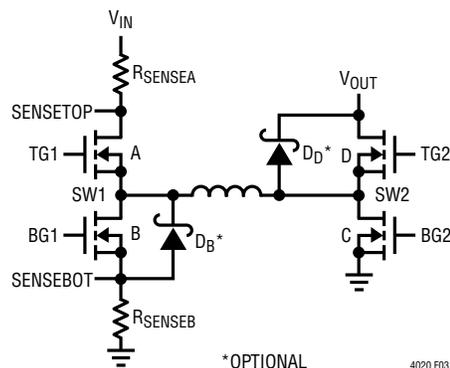

Figure 3. Converter Switch Diagram
As shown in Figure 3, when V_{IN} is higher than V_{OUT} during step-down (buck) operation, switches A (driven by pin TG1) and B (driven by pin BG1) perform the PWM required for accommodating power conversion. Ideally, switch D (driven by pin TG2) would conduct continuously and switch C (driven by pin BG2) would stay off, making PWM switching action much like that in a synchronous buck topology. Switch D uses a bootstrapped driver, however, so switch C conducts for a minimum on time of 150ns each cycle to refresh the driver and switch D is disabled to accommodate this refresh time. A 75ns non-overlap period separates the conduction of the two switches preventing shoot-through currents.
Figure 3 shows a simplified diagram of the four power switches and their connections to the IC, inductor, V_{IN} , V_{OUT} , ground, and current sense elements.
The LTC4020 performs inductor current sensing via two resistors connected in series with the V_{IN} side switches (see Figure 3). The high side sense resistor (R_{SENSEA}) is connected between V_{IN} and the drain of the top side switch FET (A). Both nodes on the sense resistor must be Kelvin connected to the IC via the pins $SENSV_{IN}$ and $SENSTOP$. Likewise, the low side sense resistor (R_{SENSEB}) is connected between the source of the bottom side switch